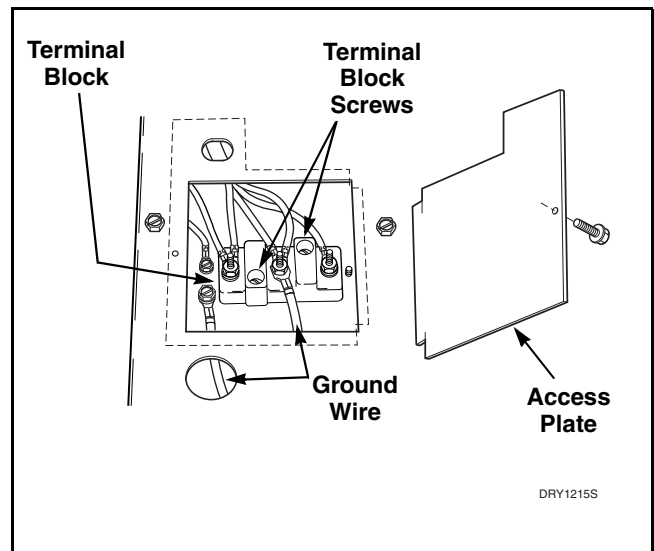

Figure 15
a. **Terminal Block – Electric Models** – Refer to *Figure 15*
- (1) Remove access plate on rear of cabinet.
- (2) Remove all wires from terminal block.